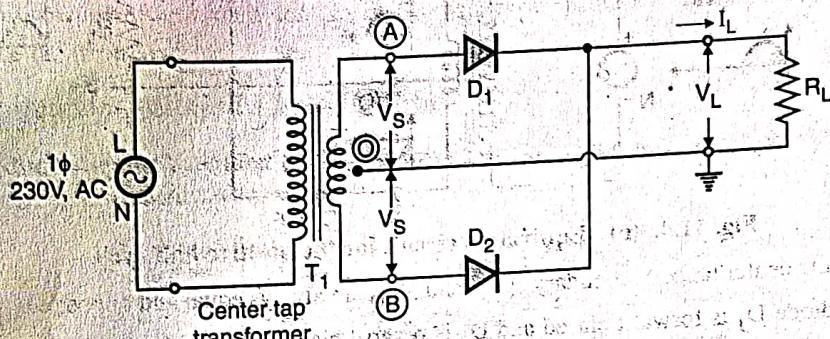

Fig. 11.4.1 : Full-wave rectifier
- The full wave rectifier configuration is as shown in Fig. 11.4.1. It consists of a step down center tapped transformer T_1 , two diodes and a purely resistive load R_L .